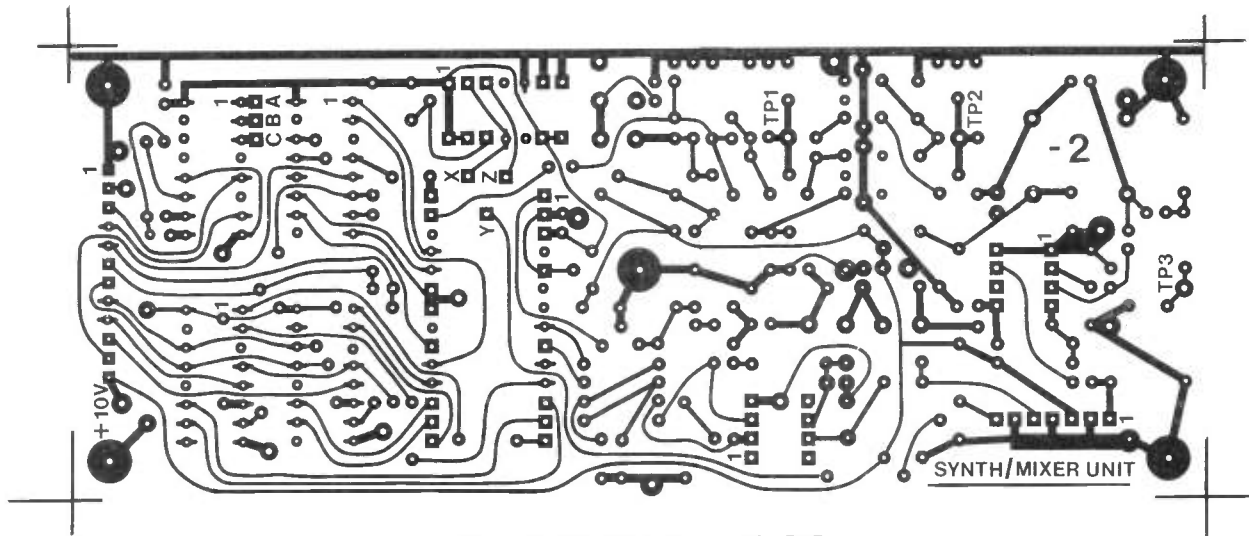
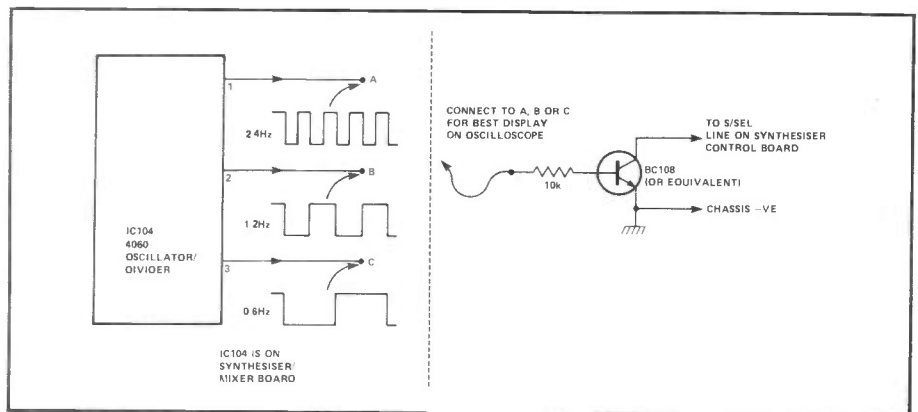

Figure 3a: The foil pattern on the PCB.
Figure 5: Set-up to measure 'Loop Filter' response.
If it is intended that the VCO be modulated, as would be the case in an FM transmitter, then rather more care will be necessary in correctly arranging the loop cut-off frequency, since unwanted phase shifts in this part of the system can give problems of modulation distortion. The circuit of **Fig. 5** will enable the filter lock-up
Referring to **Figs. 3a and 3b** in part 1 of this project (R & EW June 1983 page 15), the S/SEL line on the control circuit can be used to switch the synthesiser rapidly between two frequencies — one set up on the thumb-wheel switch and the other set up on the rotary switches. If SW4 is left open, and the S/SEL line is taken to the collector of the transistor shown in **Fig. 5**, then frequency switching will occur at one of three rates, depending on which of the three outputs 'A', 'B' or 'C' from IC104 is selected. If the oscilloscope is triggered on one edge of this switching signal, the transient response can be seen by connecting the Y input to the output of the loop filter at pin 5 of PL2.
3. References to Fig. 5 as the list of channels in the main EPROM (IC7), are inappropriate – Fig. 5 is the program for the code converter EPROM (IC2).